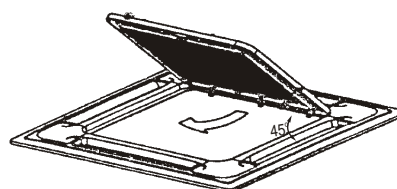

Fig.22
- b. Draw the grid up to an angle of about 30° , and remove it. (Refer to Fig.22)